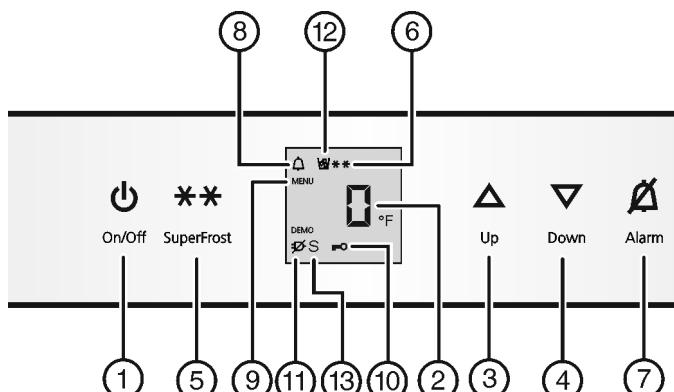

Fig. 2
- Press On/Off button Fig. 2 (1).
- Activate setting mode: Press SuperFrost button Fig. 2 (5) for about 5 seconds.
- The Menu symbol Fig. 2 (9) lights up.
- Using Up button Fig. 2 (3)/ Down button Fig. 2 (4) select °.
- To confirm: Briefly press SuperFrost button Fig. 2 (5).
- Using Up button Fig. 2 (3)/ Down button Fig. 2 (4) select °F or °C.
- To exit setting mode: Press On/Off button Fig. 2 (1).
- Activate setting mode: press and hold the SuperFrost button Fig. 2 (5) for approximately 5 s.
- ▷ The Menu symbol *Fig. 2 (9)* lights up.
- ▶ Using the Up button *Fig. 2 (3)* or Down button *Fig. 2 (4)*, select **c**.
- ▶ Press the SuperFrost button *Fig. 2 (5)* briefly to confirm.
- ▶ To switch on the child-proof lock, press the SuperFrost button *Fig. 2 (5)* briefly.
- ▷ The Child safety symbol *Fig. 2 (10)* lights up. **c** flashes on the display.
- ▶ To switch off the child-proof lock, press the SuperFrost button *Fig. 2 (5)* briefly.
- ▷ The Child safety symbol *Fig. 2 (10)* goes out. **c** flashes on the display.
- ▶ Deactivate setting mode: press the On/Off button *Fig. 2 (1)*.
- ▶ Press Alarm button *Fig. 2 (7)*.
At the same time, the Alarm symbol *Fig. 2 (8)* will flash.
The audible warning automatically ceases, the Alarm symbol *Fig. 2 (8)* goes out, and the temperature display stops flashing when the temperature is cold enough again.